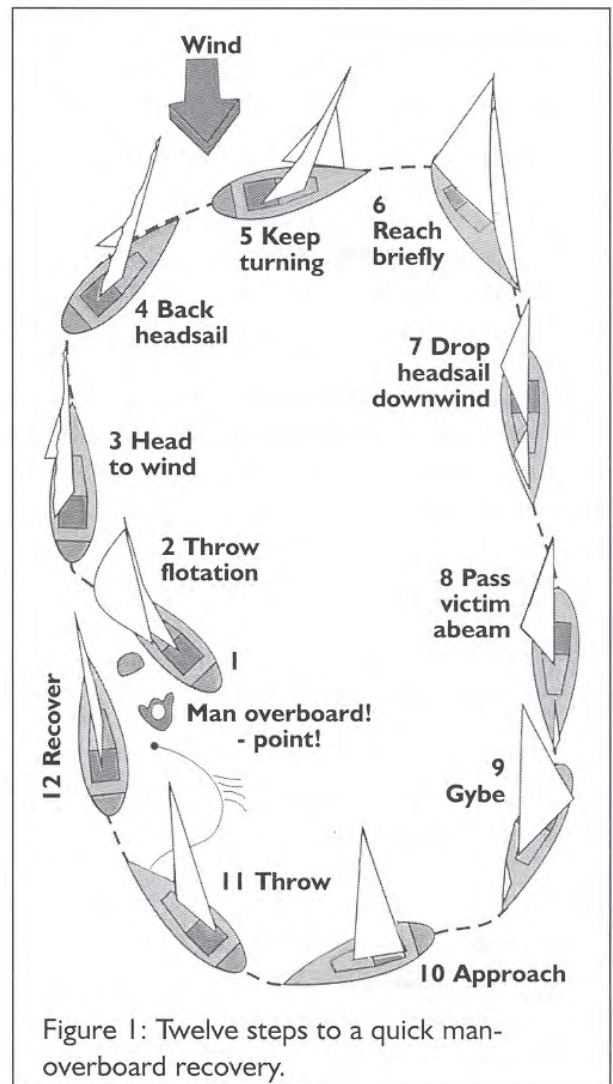

Figure 1: Twelve steps to a quick man-overboard recovery.
**1. Shout “man overboard”** and detail a crew member to spot and point to **the victim’s position** in the water. The spotter should not take his eyes off the victim (see Figure 1).
**3. Bring boat head-to-wind** and beyond (see Figure 1).